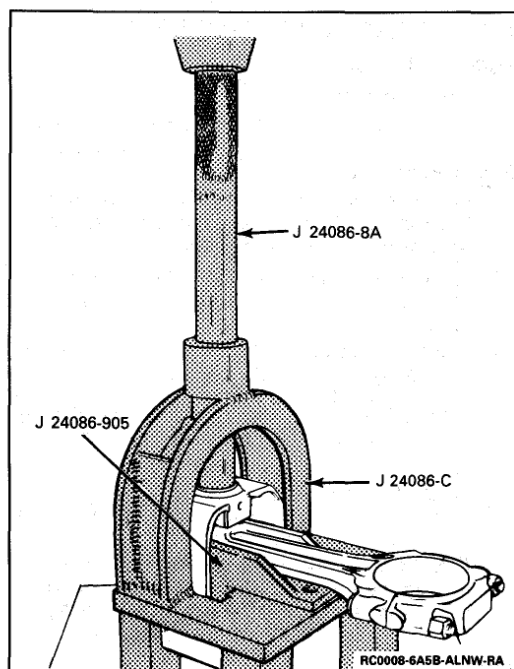

Figure 32 Removing Piston Pin
PISTONS AND CONNECTING RODS**Figures 32 through 39**
2. Place the piston (86) and connecting rod (83) assembly into J 24086-C and press out the piston pin. Refer to Figure 32. Be sure the flat side or inside of piston is up when installing piston and rod assembly into fork.
- Make sure no load is put on piston (86) during disassembly.